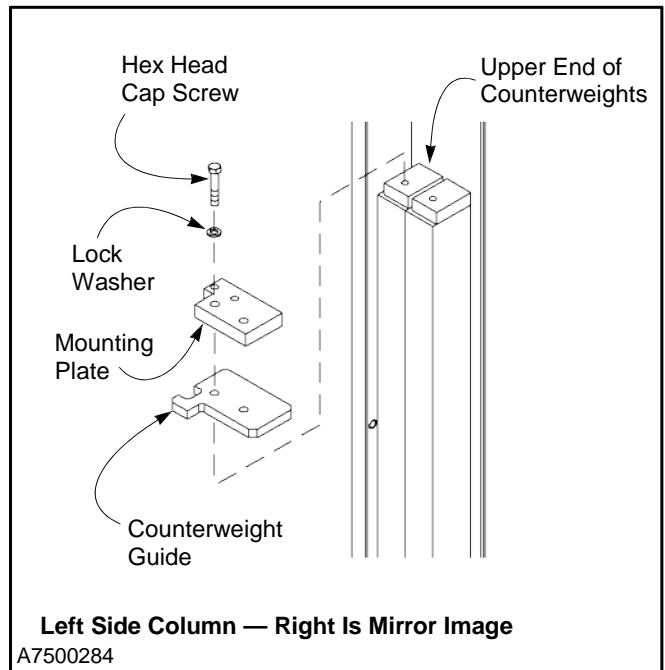

**Figure 29**
3. Place the two counterweights in one side column. The counterweights are properly positioned in the column when the steel plate welded to the ends of each weight are flush along the back edge. (See Figure 29.)
6. With both counterweight assemblies in place, mount two strap plates to the upper end of each assembly. Use two  $\frac{3}{8}$ -in. stainless steel lock washers and two  $\frac{3}{8}$ -16 x 1 $\frac{1}{2}$ -in. stainless steel hex head cap screws for each set of straps. Install the screws through the threaded pair of holes near the back of each mounting plate — but do not tighten either set of screws at this time. (See Figure 29.)